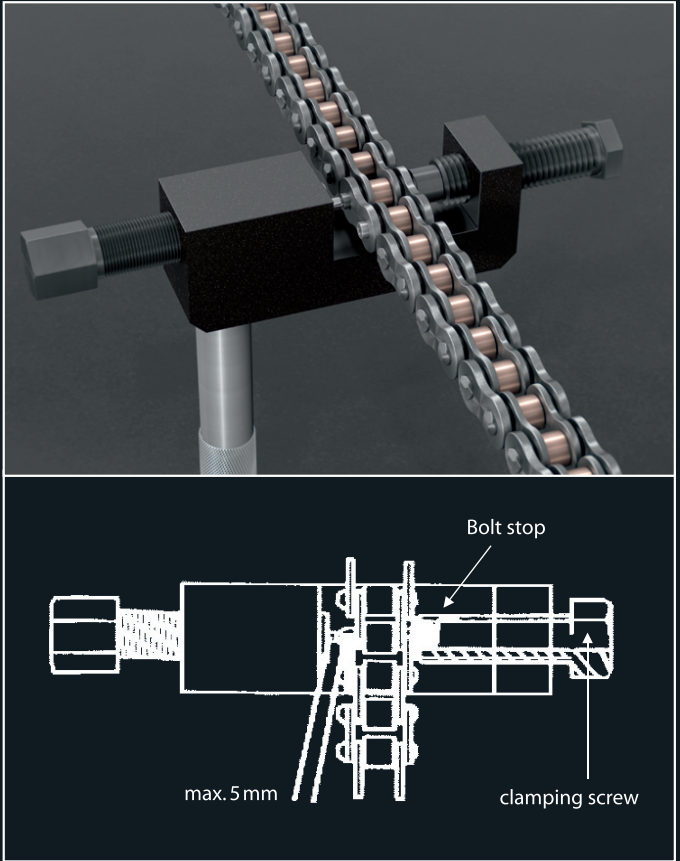

Fig.6
- Ensure that the arbor is centred in the hollow bolts of the chain lock (Fig.6).